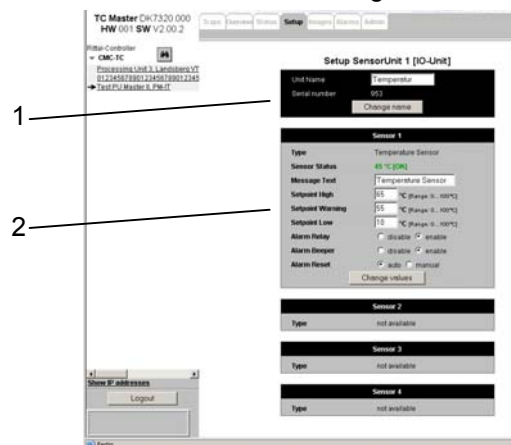

Fig. 37 Sensor units settings overview
- Click in the left-hand frame of the browser window (Figure 37, item 1) on the link of the Processing Unit (this is then marked with an arrow).